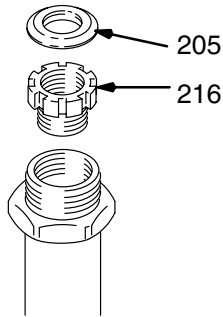

Fig. 29 02572
7. Loosely install the packing nut (216) and plug (205). See Fig. 29.